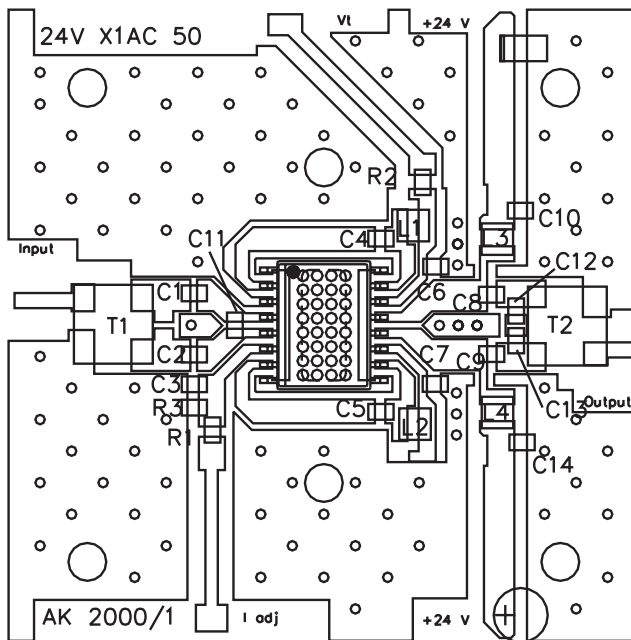

Figure 13: Evaluation Board Layout
Notes:*(1) Measured with baluns on the input and output of the device.**(2) Parts measured with 77 channels, +58 dBmV power, 13.5 dB tilt at 870 MHz.**(3) Parts measured with 110 channels, +54 dBmV power, 13.5 dB tilt at 870 MHz.**4. All specifications as measured on Evaluation Board (see Figures 13 & 14).*